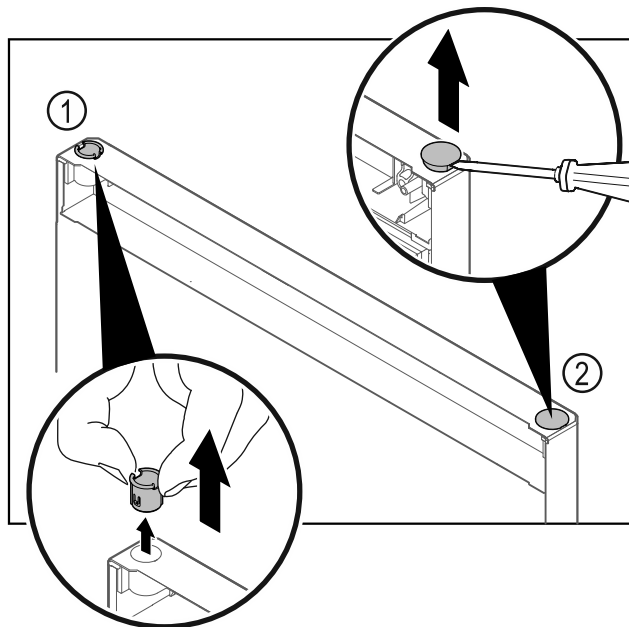

Fig. 15
- Pull out the hinge bushing Fig. 15 (1) with your fingers.
- Carefully lift the cover plug Fig. 15 (2) with a slotted screwdriver and pull it out.